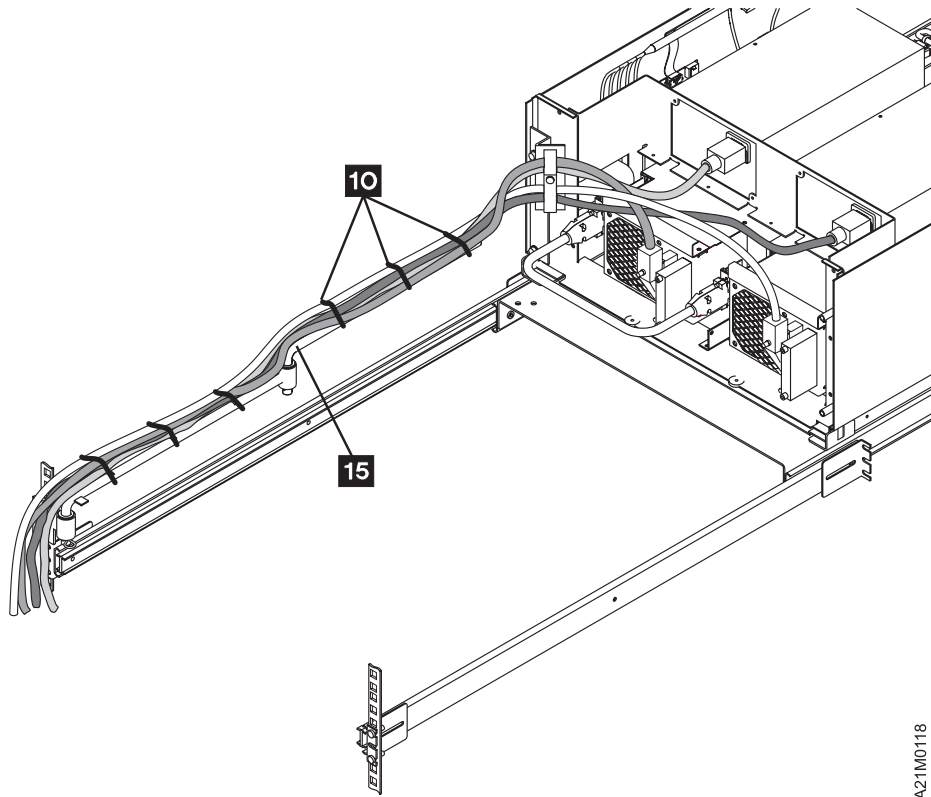

Figure 48. 3570 and Articulated Arm Extended for Model B22 Dual-Drive Dual-Host
- ___ Step 7. See Figure 48 on page 88. Push the 3570 completely forward so it will lock into position, then extend the articulated arm to its full length toward the 3570 library.